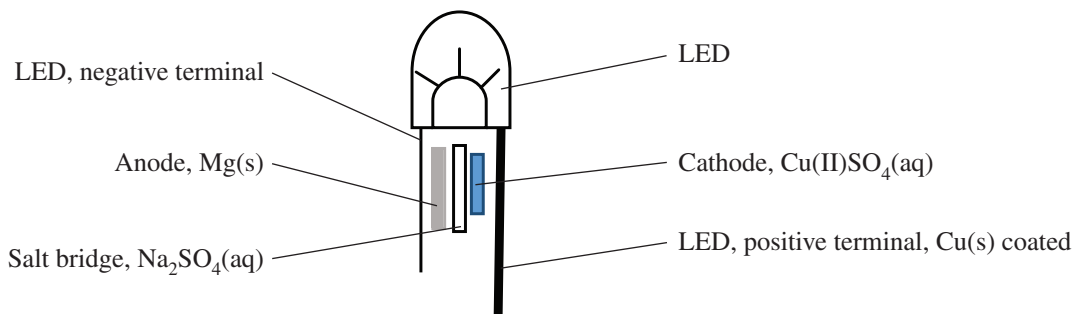

Figure 3. The correct arrangement of the hand-held battery. Squeeze with thumb and index finger on each side of the LED terminals to light the LED.
5. See Figure 3 on how to correctly arrange the components. Lead the students into squeezing the LED between the thumb and index finger for component contact. Add a drop of DI water if necessary, but not too much to drown the battery. Darken the room or cup hand over LED to watch it light.